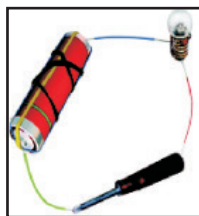

Fig 12.12
3. Explain why the bulb would not glow in the arrangement shown in Fig. 12.12